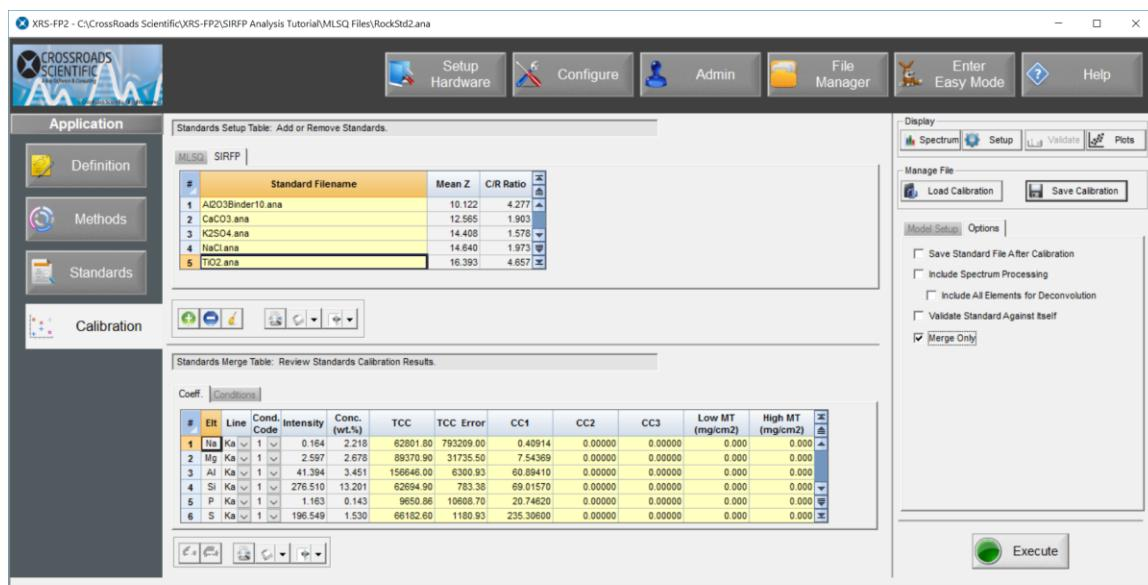

Figure 15. Application Workflow – Calibration. Add all the SIRFP standard ANA files to be used for the low-Z calibration.
21. Under the “SIRFP” tab, double click in the SIRFP “Standard Filename” column to load the ANA filename to be used for the SIRFP calibration (e.g. “Al203Binder10.ana”). To add additional ANA files (standards) simply use the down-arrow key or select the plus button to add a row. Then load “CaCO3.ana” and subsequently use the same method for the rest of the SIRFP standards (Fig. 15 below).